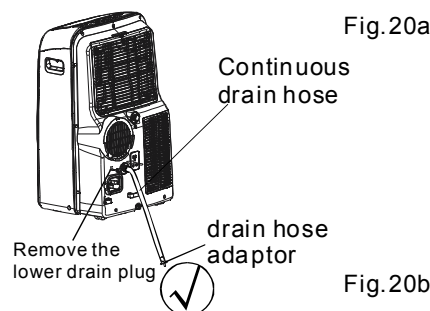

Fig. 20b
- During heating pump mode, remove the lower drain plug from the back of the unit, install the drain connector(5/8" universal female mender) with 3/4" hose(locally purchased). For the models without drain connector, just attach the drain hose to the hole. Place the open end of the hose adaptor directly over the drain area in your basement floor. Please refer to Fig.20b.